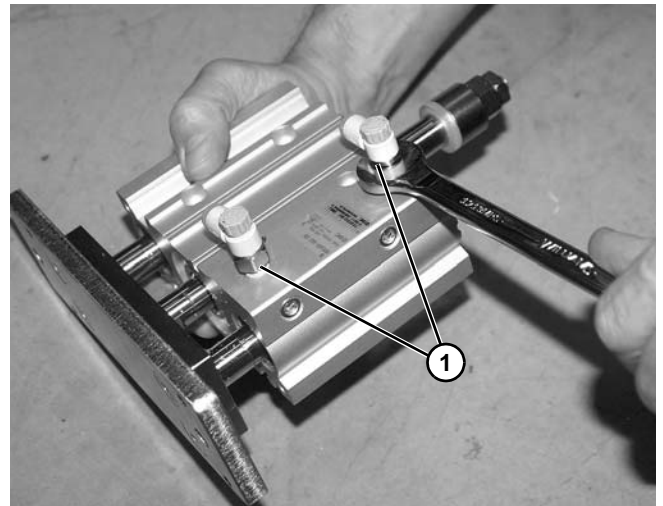

Figure 116
14. Remove two fittings (Figure 116, item 1) from cylinder.